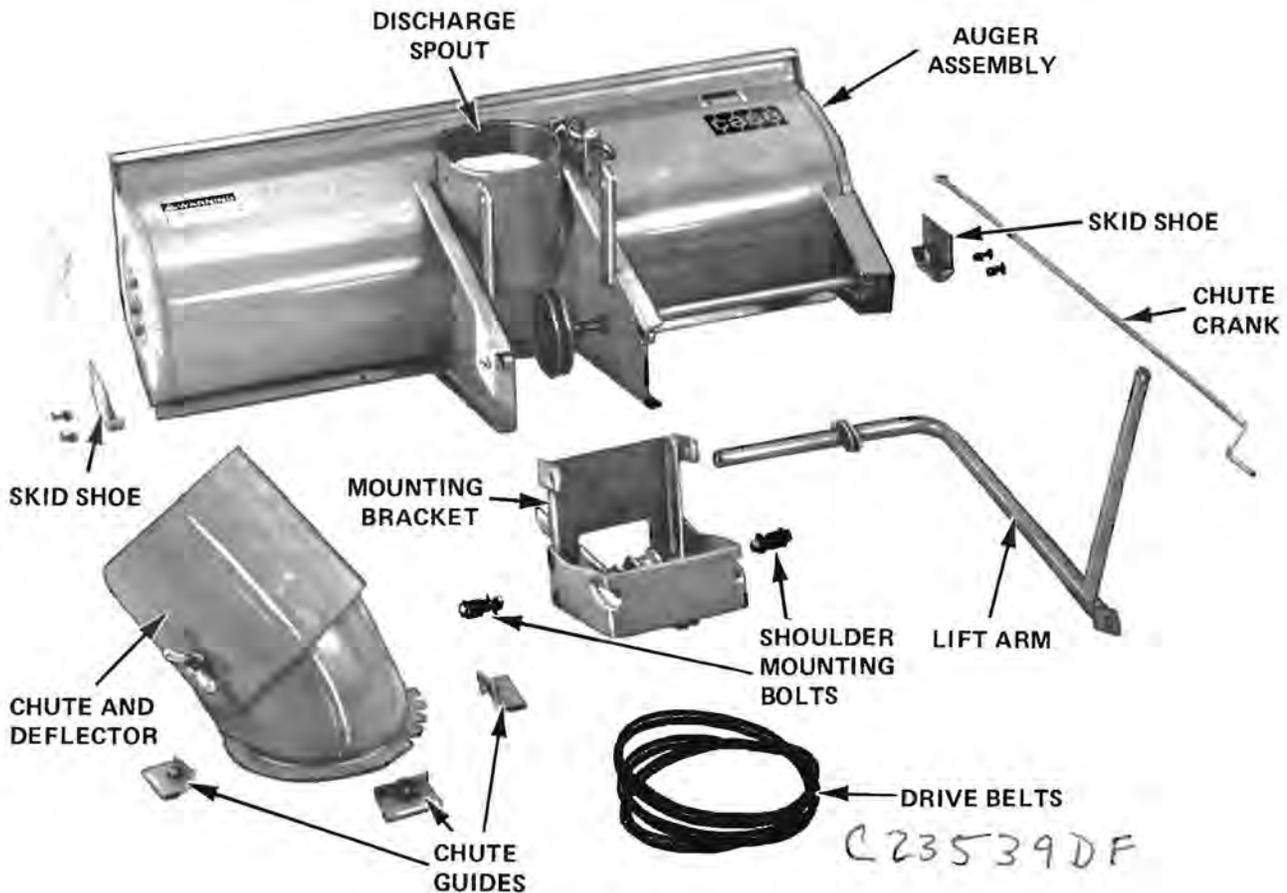

FIGURE 4
B. Before attaching the snow caster, lay out the individual parts as illustrated in Figure 4.
8. Apply a coat of grease around the outside of the discharge spout as shown in Figure 4.